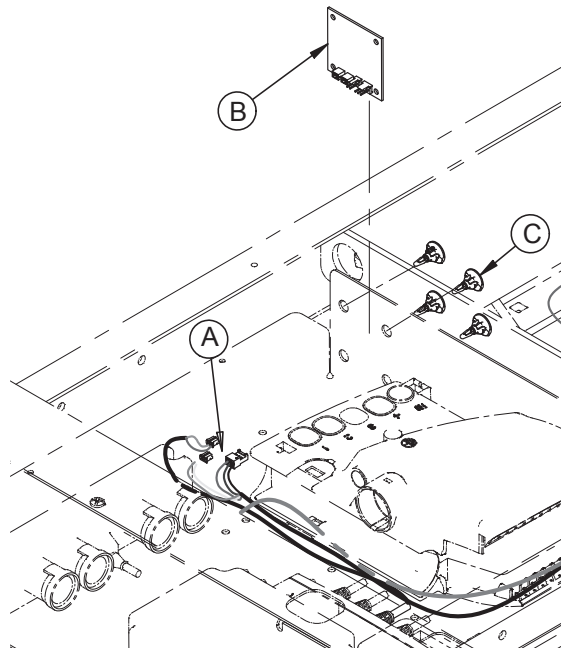

Figure 1
**Note:** Unless otherwise indicated, refer to Figure 1 for the following replacement procedure.
2. Unplug the bed power cord from the wall outlet and, the battery cord (refer to Figure 1, pg. 57) after removal of electrical box cover.
5. Remove all cables (A) connected to the CPR board (B). Note their location so they will be connected properly to the replacement CPR board. Refer to the connection diagram in the “Electrical Service Information” section for the connecting position of the cables on the CPR board.
6. Using the needle nose pliers remove the 4 PCB stand-off pins (C) holding the CPR board and remove it.
4. Unplug the bed power cord from the wall outlet and, the battery cord (refer to Figure 1, pg. 57) after removal of electrical box cover.
5. Remove the wires (A) from the micro switch. Note the location of the wires so they will be connected correctly to the replacement micro switch.
6. Using the #1 Phillips screwdriver, remove the two screws (B) holding the micro switch to the fowler section lever. Keep the mounting plate (C). Remove the defective micro switch.